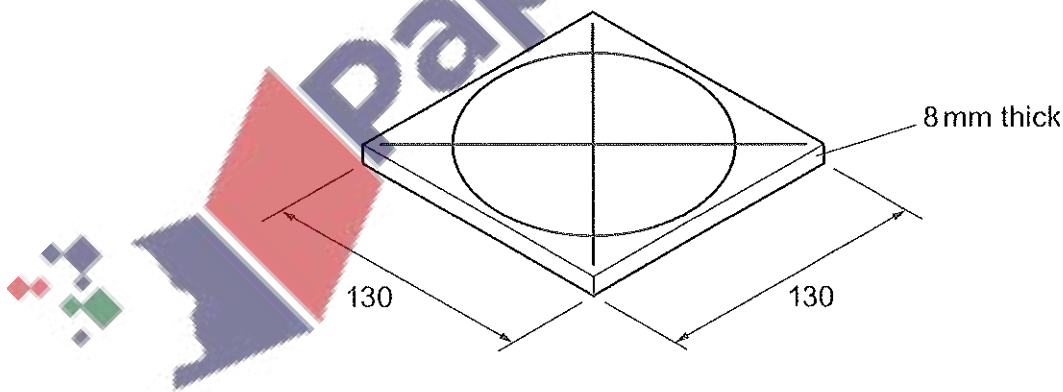

Fig. 13.2
- (d) Fig. 13.2 shows a block of wood that will be used to make the top piece of the wind chimes. The shape of the top piece has been marked out and will be produced on a woodturning lathe.